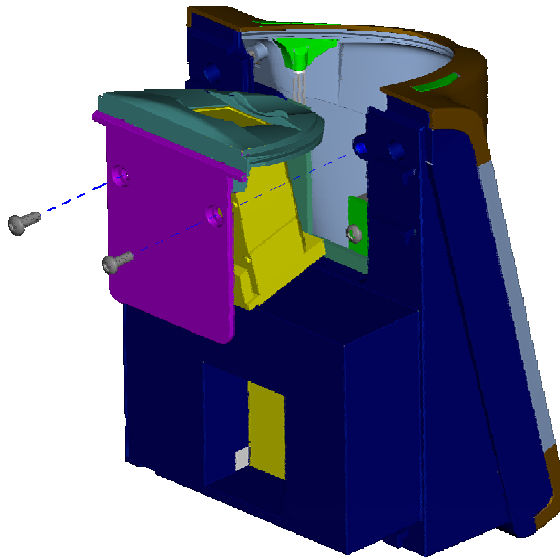

Figure 7-2: Removal of Sensor Module from V-Flex 4G Device
2. Remove two Philips screws, as shown in Figure 7-2 (on the next page).